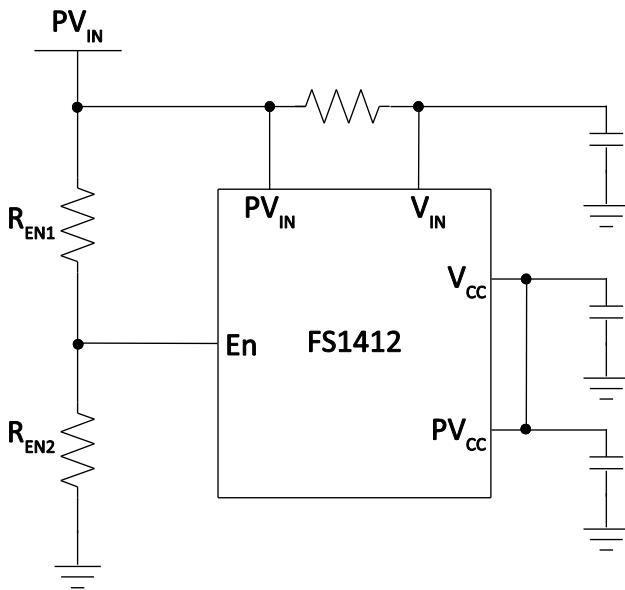
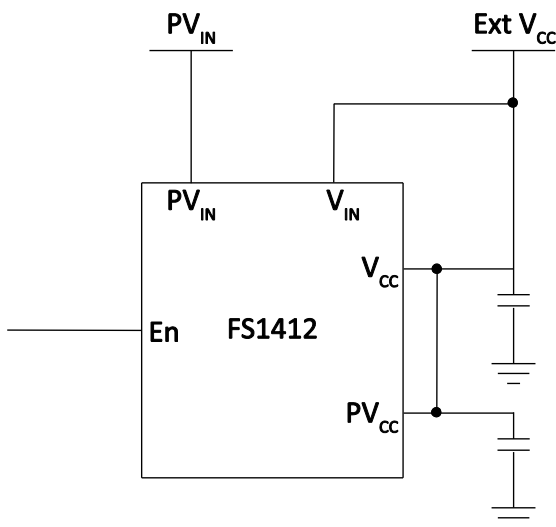

Figure 5 Single supply configuration: internal LDO regulator, adjustable PV_{IN_UVLO}
Figure 6 Using an external bias voltage
The FS1412 has an integrated Low Drop-Out (LDO) regulator, providing the DC bias voltage for the internal circuitry. The typical LDO regulator output voltage is 5.2V. For internally biased single-rail operation, the V_{IN} pin should be connected to the PV_{IN} pin (Figure 5). If an external bias voltage is used, the V_{IN} pin should be connected to the V_{CC} pin to bypass the internal LDO regulator (Figure 6). There is a separate pin to provide bias for the drivers (PV_{CC}); this should be connected to V_{CC} in the application circuit.
- It can be used to implement a precise input voltage UVLO. The input of the En pin is derived from the PV_{IN} voltage by a set of resistive dividers, R_{EN1} and R_{EN2} (Figure 5). Users can program the UVLO threshold voltage by selecting different ratios. A useful feature that stops the FS1412 regulating when PV_{IN} is lower than the desired voltage, this may be used for finer control over the PV_{IN} UVLO voltage levels than is provided by the VIN_ON/VIN_OFF commands.